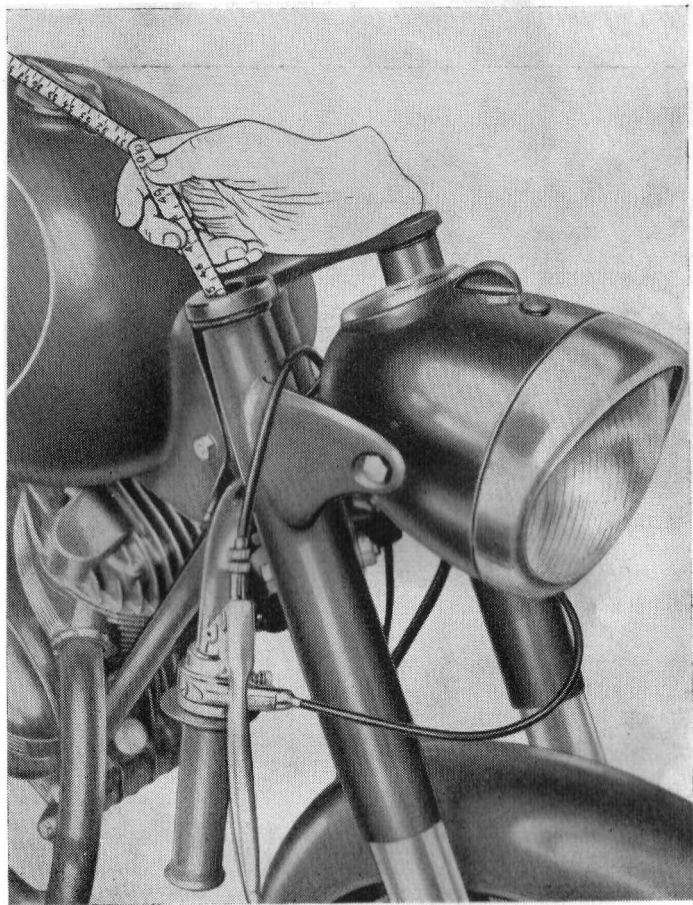

Fig. 10
(see fig. 10)
- 3) Check level of oil by introducing a ruler in the fork leg down to a depth of 45 cms (7") see fig. 10. Correct oil level is 7 cm. (2.75") which is equal to 125 cubic centimeters of oil in each leg. Oil recommended is Shell X 100 SAE 20.